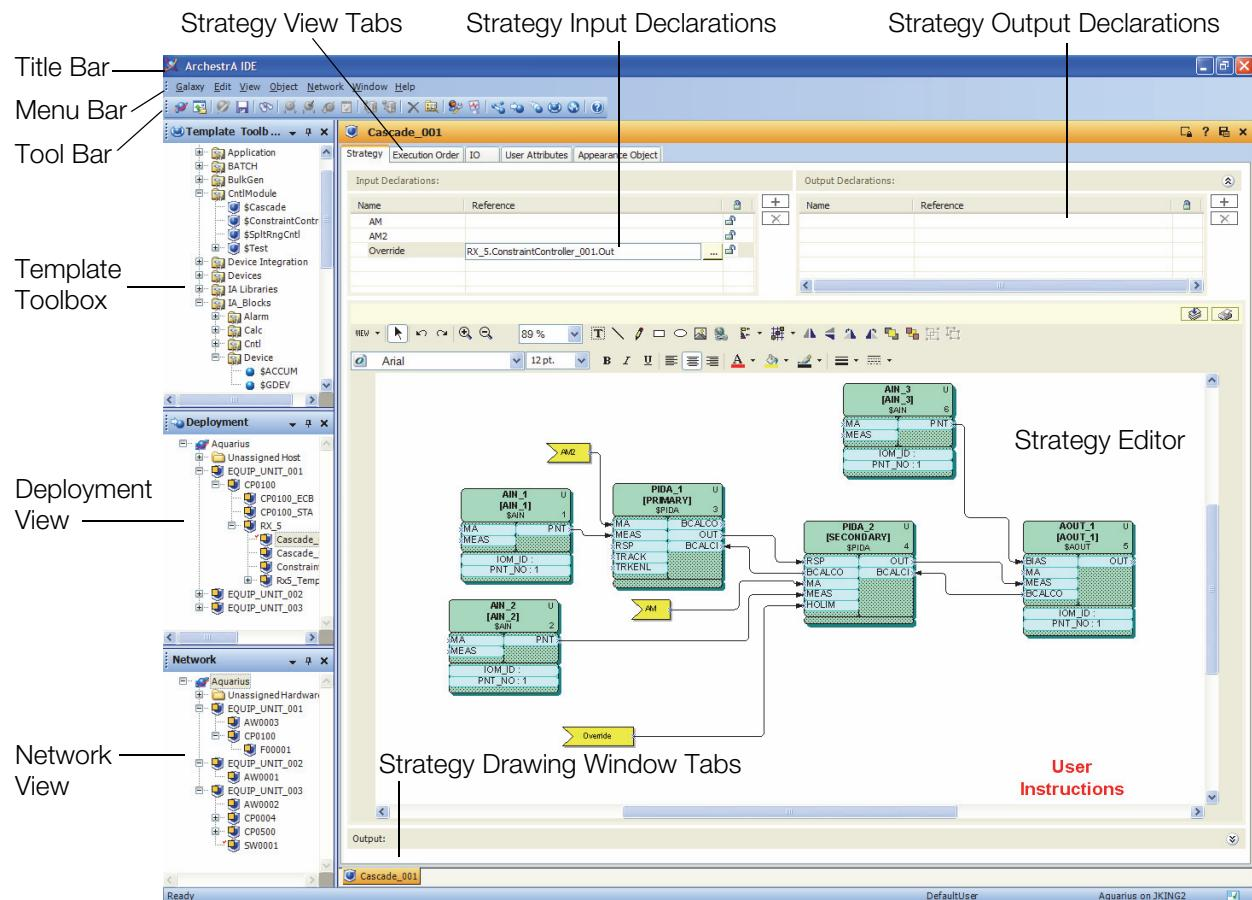

Figure 1. Control Editors Navigation
The Control Editors are constructed using the Microsoft® desktop metaphor and include several menus, tool bars and views, such as the Template Toolbox and Network View as shown in Figure 1. The Strategy Editor Area provides a drawing canvas and associated tables and Winforms used for the graphical construction of control strategies.
The Control Editors provide graphical design, configuration, deployment and commissioning tools for systems using protocols such as PROBIFUS and FOUNDATION Fieldbus (FF).The graphical design tool for Strategy construction is shown in Figure 1.